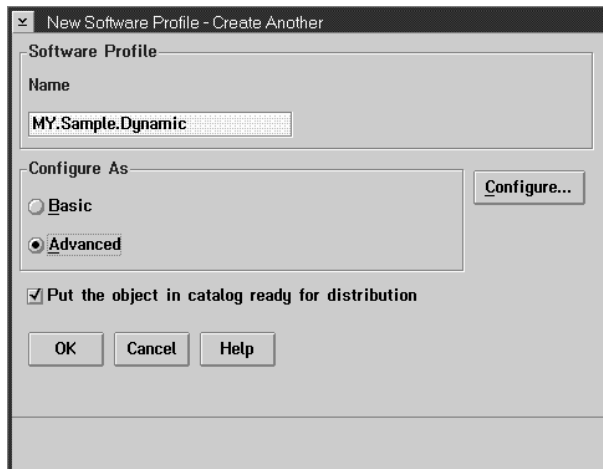

Figure 92. New software profile window
- 23 Close the notebook. The New Software Profile window is displayed again, as shown in Figure 92.